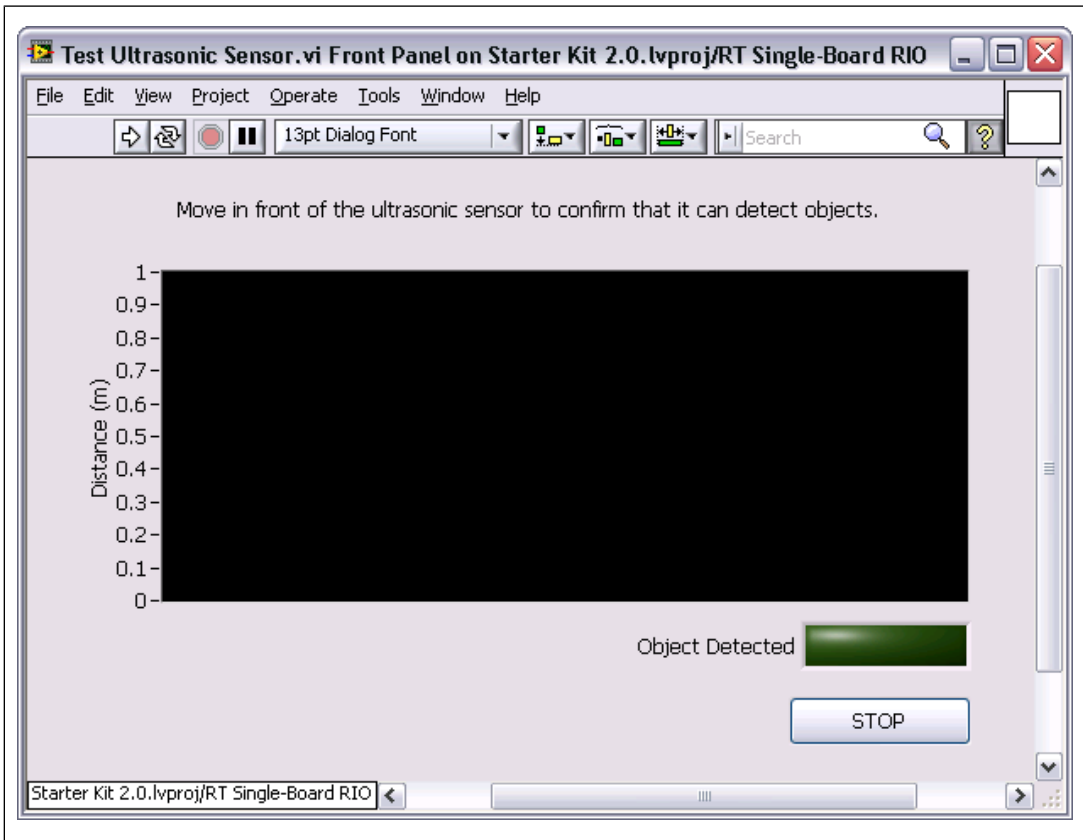

Figure 7. Front Panel of the Test Ultrasonic Sensor VI
1. Select **Window»Show Front Panel** to display the front panel of the VI, as shown in Figure 7.